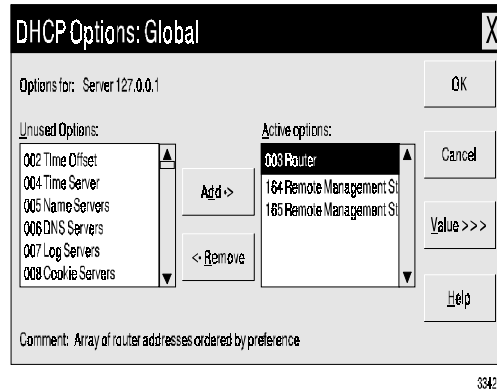

Figure 8. Global Options Screen
a. Select DHCP Options → Global (Figure 8 displays).